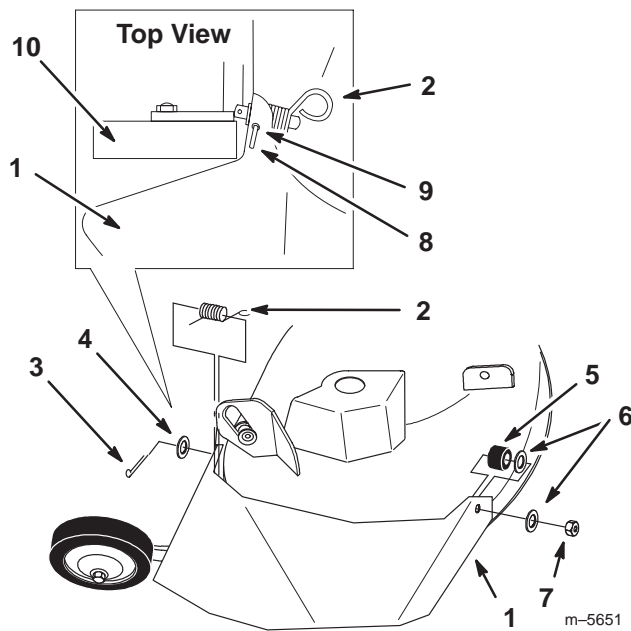

Figure 2
1. Locate items shown in figure 2.
2. Place the straight end of the spring into the small hole in the discharge chute (Fig. 2).
3. Position spring and discharge chute over post on rear of deck and secure with a washer (1/2 in.) and a cotter pin (3/4 in.) (Fig. 2).
5. Place discharge chute over stud and secure with a plastic washer and jam nut (3/8 in.) (Fig. 2).